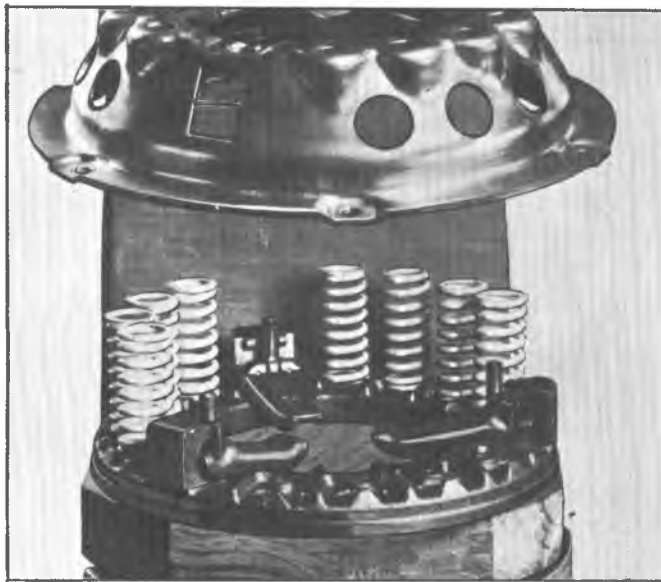

Fig. 10E--Assembling Cover and Pressure Plate
8. Lower the cover on top of the assembled parts, (fig. 10E) being sure that the anti-rattle springs are in correct position and also that the punch marks made before dismantling are matched to insure retaining the original balance.